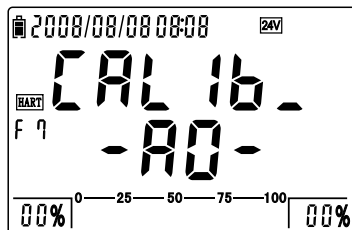

Figure 4-5-7-3: AO calibration entrance
c. After calibration, press  to go to the figure 4-5-7-1.